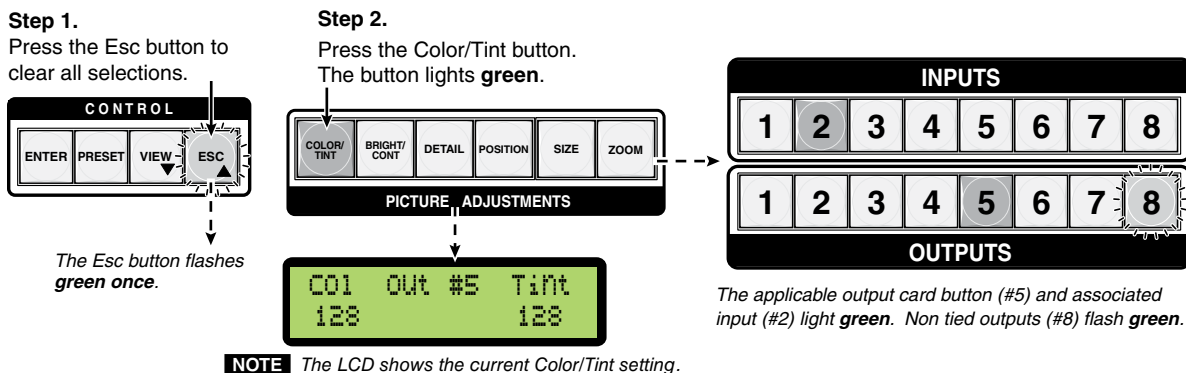

Figure 3-33 — Steps 1 and 2 for adjusting color and tint
2. Press and release the Color/Tint adjustment button. The output buttons for scaler/scan converter cards (outputs 3 through 8) and any associated (tied) input button light solid green. Untied outputs flash green. The LCD panel shows the current color/tint setting (see figure 3-33) for that lit output.